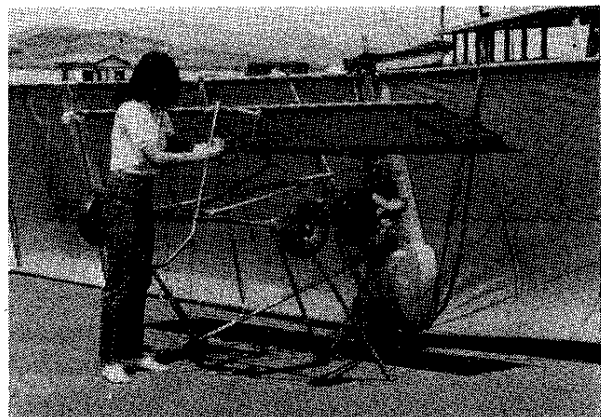

Figure 2.24
30. Prepare to install tail section by setting stabilizer on landing gear. Lean tail boom tubes against axle and uncoil upper and lower tail wires. **Figure 2.24**